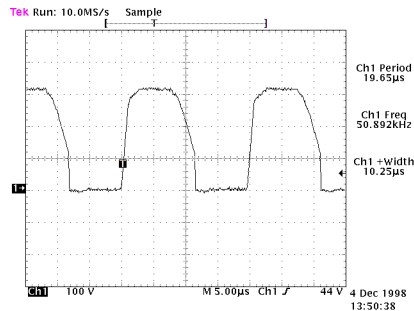

FIG. 9
- the motor fan starts up, and after approx. 2 seconds a wave will appear as in fig. 9.